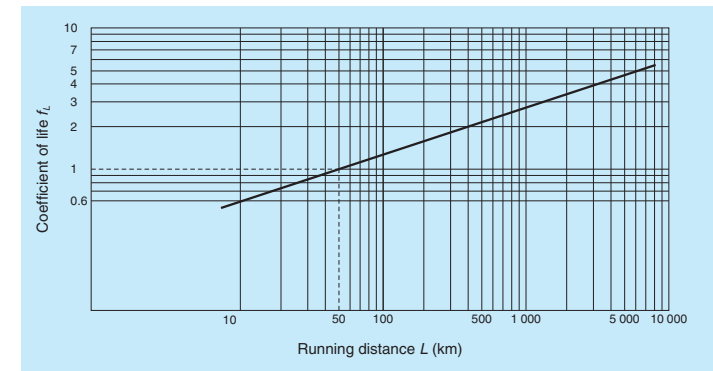
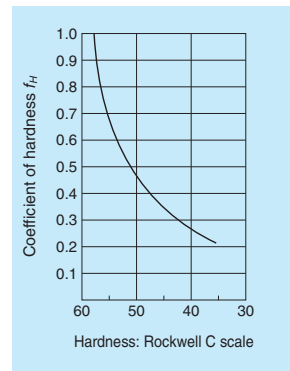

Fig. 4 Relationship between life factor and running distance
Fig. 5 Hardness factor
- P : Radial load (N)
- f_L* : Life factor (Refer to Fig. 4)
This formula is used provided that the shaft hardness is HRC58 or higher. Rated life is shorter if the shaft is softer. In this case, find the hardness factor *f_H* from Fig. 5, and multiply the value.
From Fig. 4 and Fig. 5,